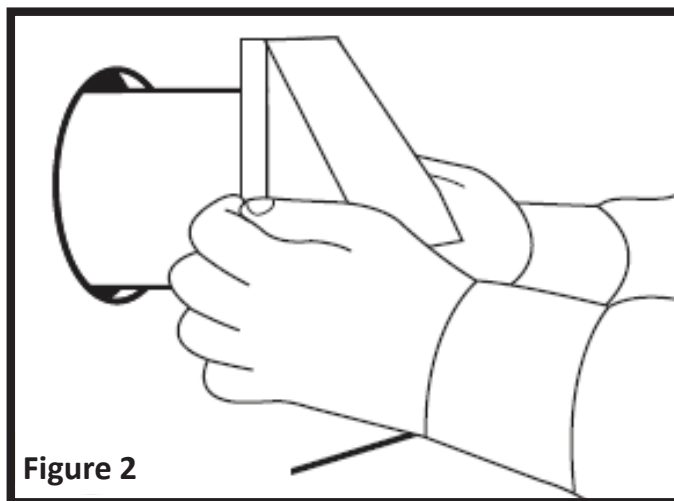

Figure 2
3. From the outside of the building, slide the 6" diameter ducting of the Air Intake Hood assembly into the hole opening until the hood is flush against the outside wall surface (**Figure 2**).